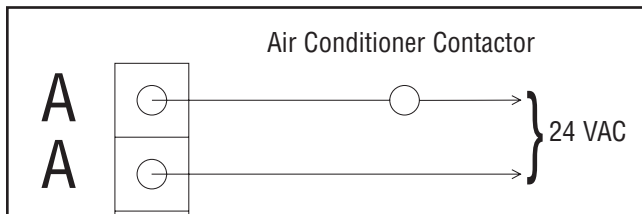

Figure 5 — Terminals "A-A"
- Terminals "A-A" on control module are rated for 24 VAC and air conditioner contactor control. Contacts are connected in series with the air conditioner contactor control circuit (Figure 5).